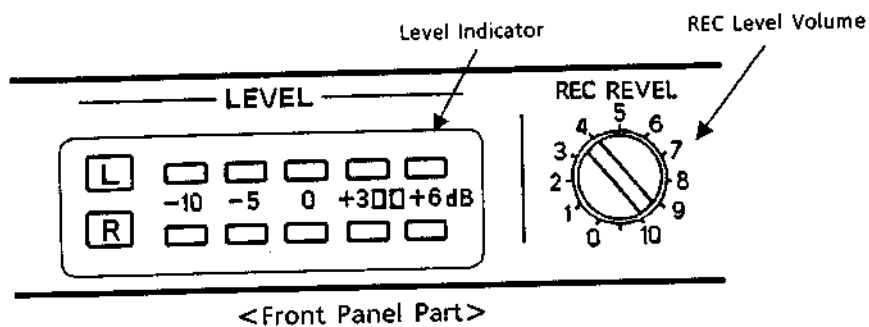

Figure 25
- (2) Insert the metal tape (TDK AC-712) into deck B and set to REC PLAY mode. Set the REC LEVEL volume (Figure 25) to the maximum.
- (3) Input the 400Hz / 150mV  $\pm$  2dB (oscillator output) signal to the line input in the mode set in (2), and adjust the line output to 550mV at that time. Adjust VR8001 (VR8002) observing the level meter of the set so that all the level indicator lamps of L (R) light up at once, and then readjust it so that the +6 indicator lamp goes out.